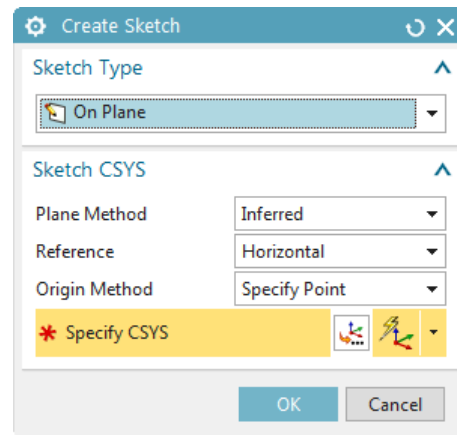

Figure 16-131 The Create Sketch dialog box
2. Choose the **Sketch Section** button in the **Channel Path** rollout; the **Create Sketch** dialog box is displayed, refer to Figure 16-131.